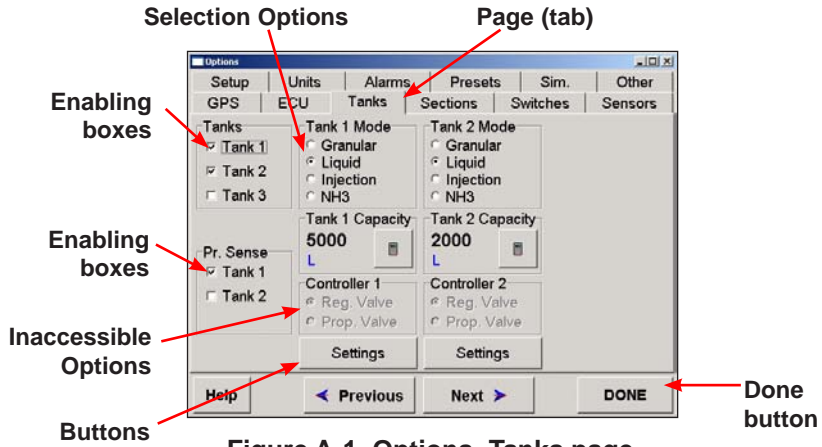

Figure A-1. Options>Tanks page
The following pages offer an explanation of the terms used in Figures A-1 and A-2 (next page). These explanations will help you select the right options for your Sprayer.
To select an option with a checkbox next to it (eg. Pr. Sense option [Figure A-1 on page A2]):
To select an option with a circular radio button next to it (eg. a Tank 1 Mode option [Figure A-1 on page A2]):
- Pages—Within the Options window there are 12 Pages or tabs (some users may have 11), these can be seen lining the top of the page (Figure A-1 on page A2)
1. Select the **DONE** button (Figure A-1 on page A2).
- Inaccessible options—When a window is greyed out (Figure A-1 on page A2) it means that the options in the window are inaccessible
The example (Figure A-1 on page A2) shows the Controller 1 window as greyed out, this is because the Controller selected on the ECU page is not capable of controlling proportional valves, therefore the window is locked on the Regulator Valve option. When a different Controller (eg. Spray ECU 2) is selected, the Controller 1 window will become accessible.